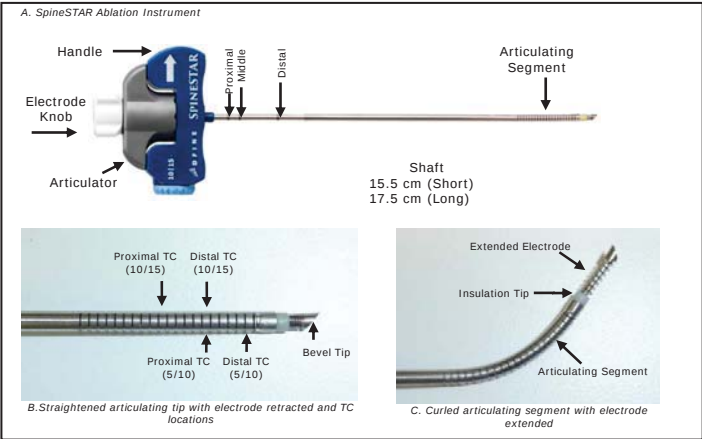

Figure 2
Figure 2: SpineSTAR (SS) Ablation Instrument (A) has a handle that contains an Articulator (grey color) that curls the Articulating Segment in the direction of the Indicator (white arrow) and white Electrode Knob, which extends the Electrode from the distal end of the Articulating Segment (C). The total maximum distance the Electrode extends beyond the end of the Articulating Segment is 10mm. There are two thermocouples (TC) on the articulating segment of the shaft (B): For 10/15 TC configuration, the Distal TC is 10mm from the insulation tip while Proximal TC is 15mm from the insulation tip; for the 5/10 TC configuration, the Distal TC is 5mm from the insulation tip while Proximal TC is 10mm from the insulation tip. Three black marks on the shaft represent the location of bevel tip and TCs in relation to the distal end of the Working Cannula. The Insulation Tip (C) is radiolucent and represents the center of the ablation zone.